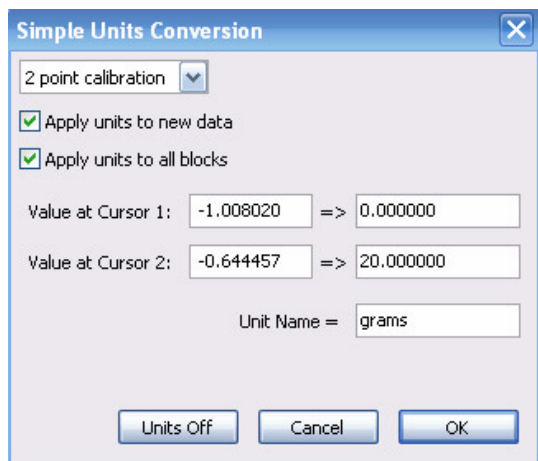

Figure FB-1-6: The **Simple Units Conversion** dialog box window with the voltages at the cursors set to equal the weight used in calibration.
- 5 The **Simple Units Calibration** window will appear (Figure FB-1-6 on page FB-1-3). On this window: